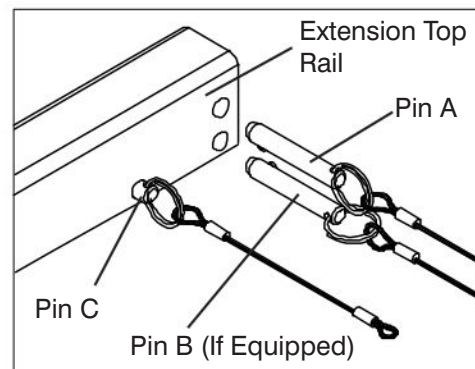

Figure 3-13b. Extension Top Rail Pins
8. Remove left and right side pins A and B (if equipped). (Refer to Figure 3-13b) and pull back the extension top rail to clear front railing. Ensure pin C is installed to secure the extension handrail.